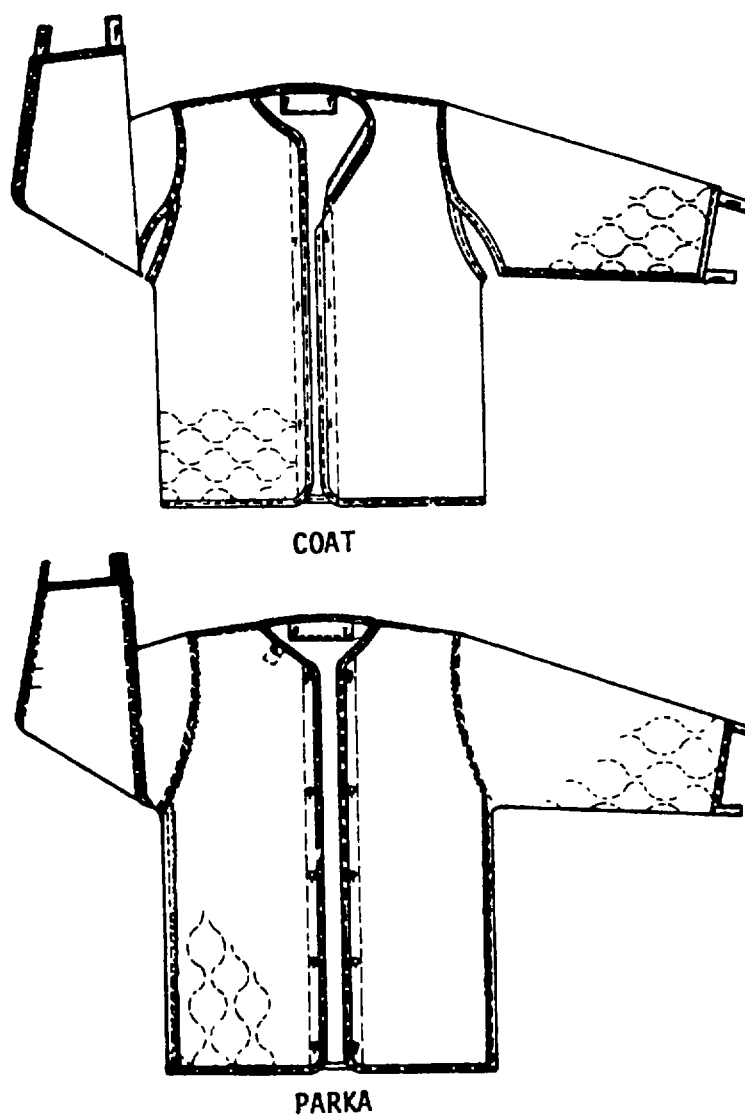

Figure 12-1. Cold Weather Parka and Coat Liners.
- a. Liner, Extreme Cold Weather Parka, nylon quilted, Army Shade 106, MIL-L-43466 (NSN's 8415-00-782-2881 through 2885), Figure 12-1. The extreme cold weather parka liner is an olive green under-garment of polyester batting covered with 3 plys of ripstop nylon cloth and is worn with the parka for additional insulation. The liner is a three-quarter length cardigan style garment with bound edges. Buttonholes along the neck and front edges and tabs on the sleeve bottoms are provided for attaching the liner to the parka.
- b. Liner, Cold Weather Coat, nylon quilted, Army Shade 106, MIL-L-43536 (NSN's 8415-00-782- 2886 through 2890), Figure 12-1. The cold weather coat liner is an olive green undergarment of polyester batting covered with 3 plys of ripstop nylon cloth and is worn with the cold weather coat for additional insulation. The liner is a hip-length, collarless, cardigan style garment with bound edges. Buttonholes at the neck and front edges and buttonhole tabs at the sleeve bottoms are used to attach the liner to the inside of the coat